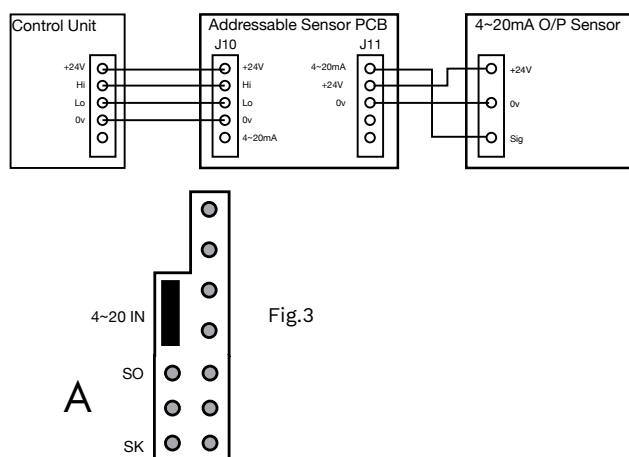

Fig.3
1. Insert J8 jumper to receive signal from external 4~20mA source (Fig.3)